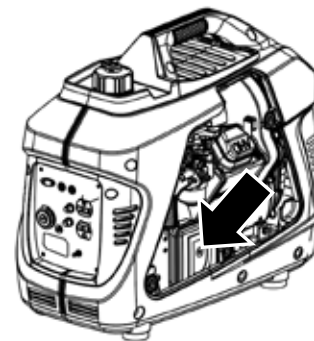

Figure 14: Remove air filter screw
3. Unscrew the air cleaner cover and tip the cover down (see Figure 14).